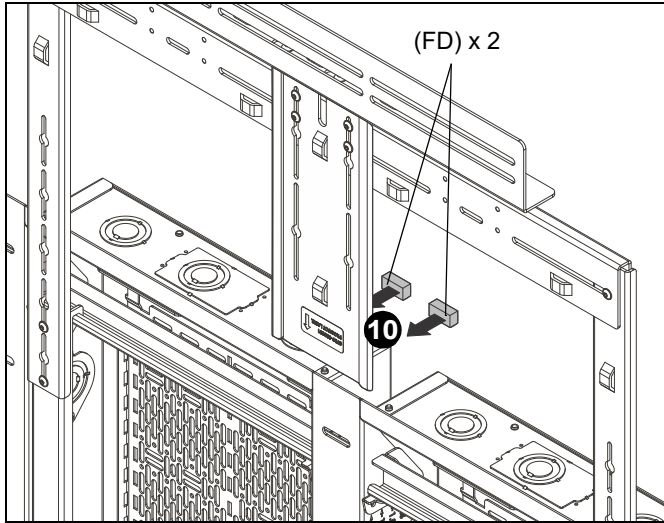

Figure 9
- (Optional) Apply adhesive foam pads (FD) to back of micro height-adjustment bracket (E) as desired. (See Figure 9)